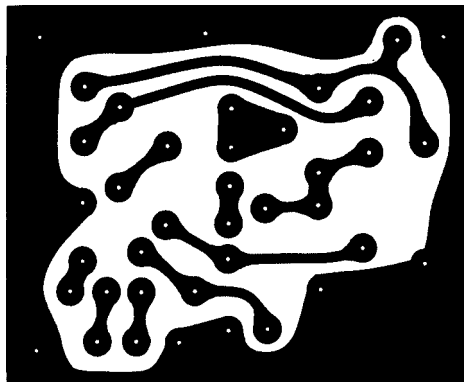

Figure 1 The trail pattern of the PCB – looking from the track side
1. PCB. The plain side is the *component side* and the soldered side is the *track side*. **Figure 1** shows the track side full size. Make the PCB from the pattern given in Figure 1. Otherwise, build the circuit on a matrix board.